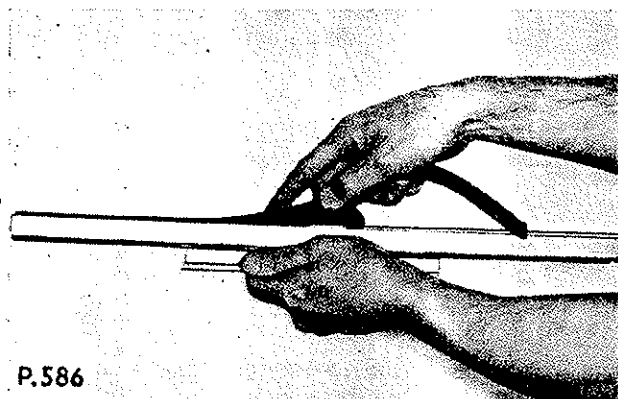

Fig. O.4. Fitting a new seal in the door dropping glass bottom channel
- Fit a new seal in the channel, ensuring equal spacing at each end (see Fig. O.4).